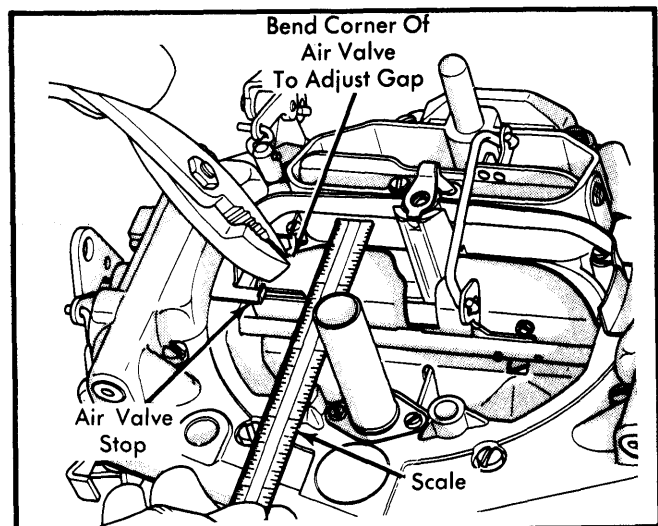

Fig. 5 Adjusting Air Valve Gap
1) Hold secondary air valve wide open. Measure specified gap between raised edge (short side) of air valve and air horn wall. See Fig. 5.